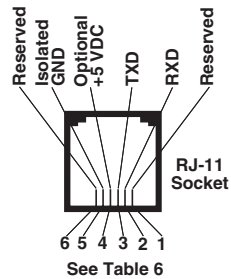

Figure 11 – RJ-11 Connections
- Standard 4-wire cable with male RJ-11 connectors (see Figure 11 and 12, and Tables 6 and 7 for a wiring diagram and pin descriptions).